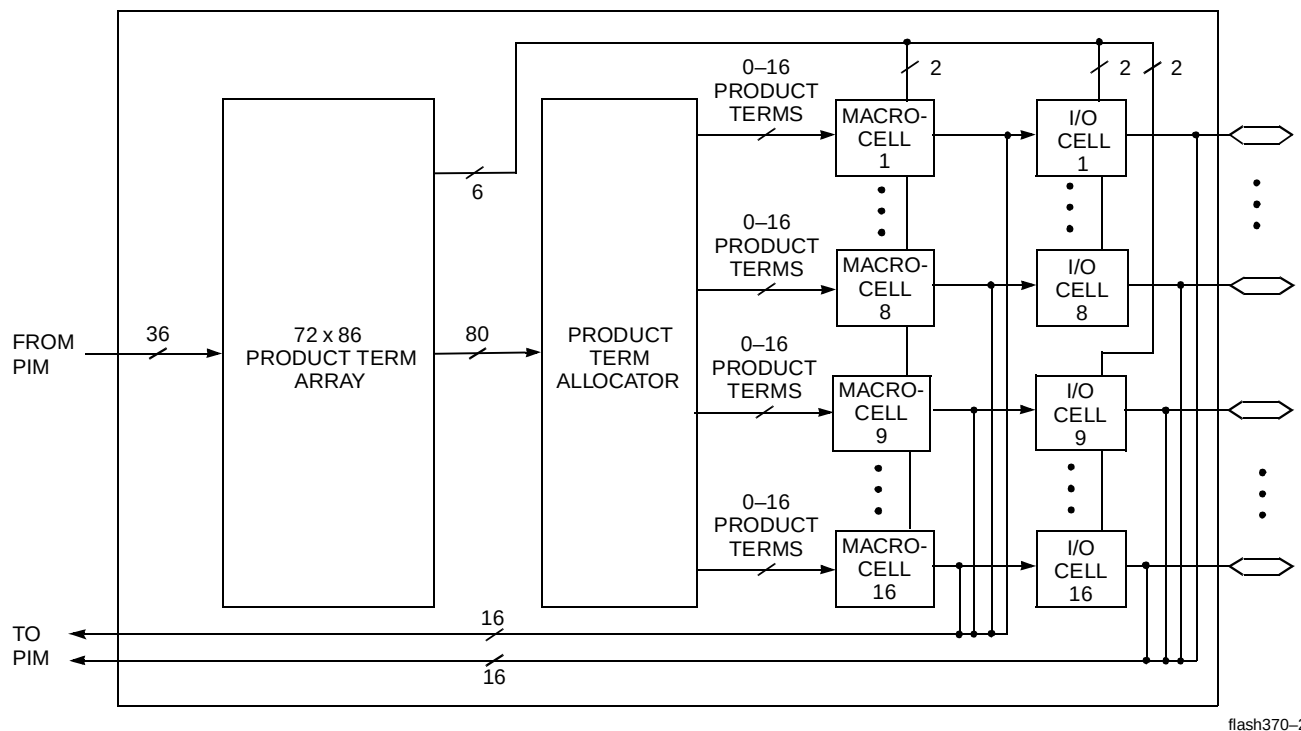
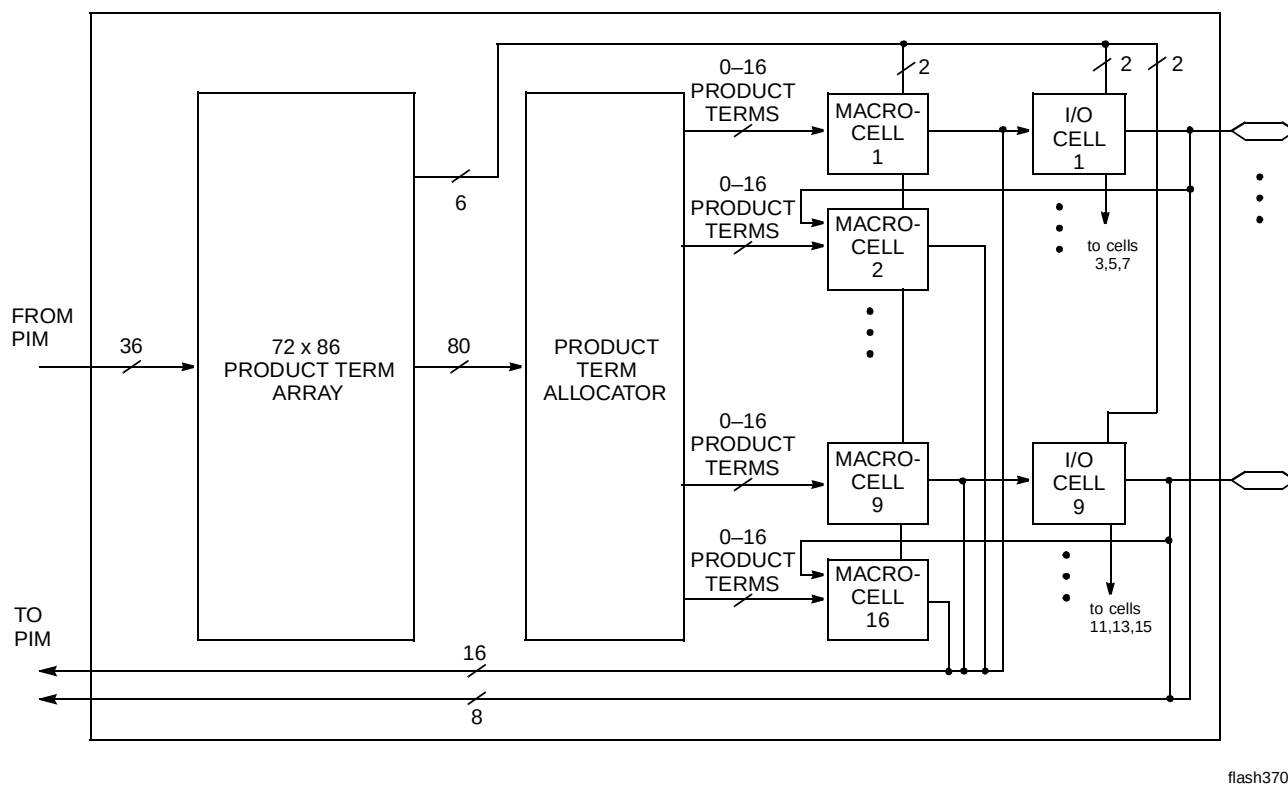

Figure 2. Logic Block for CY7C371, CY7C373, and CY7C375 (I/O Intensive)
Figure 3. Logic Block for CY7C372 and CY7C374 (Register Intensive)
There are two types of logic blocks in the FLASH370 family. The first type features an equal number (16) of I/O cells and macrocells and is shown in *Figure 2*. This architecture is best for I/O-intensive applications. The second type of logic block features a buried macrocell along with each I/O macrocell. In other words, in each logic block, there are eight macrocells that are connected to I/O cells and eight macrocells that are internally fed back to the PIM only. This organization is designed for register-intensive applications and is displayed in *Figure 3*. Note that at each FLASH370 density (except the smallest), an I/O intensive and a register-intensive device is available.